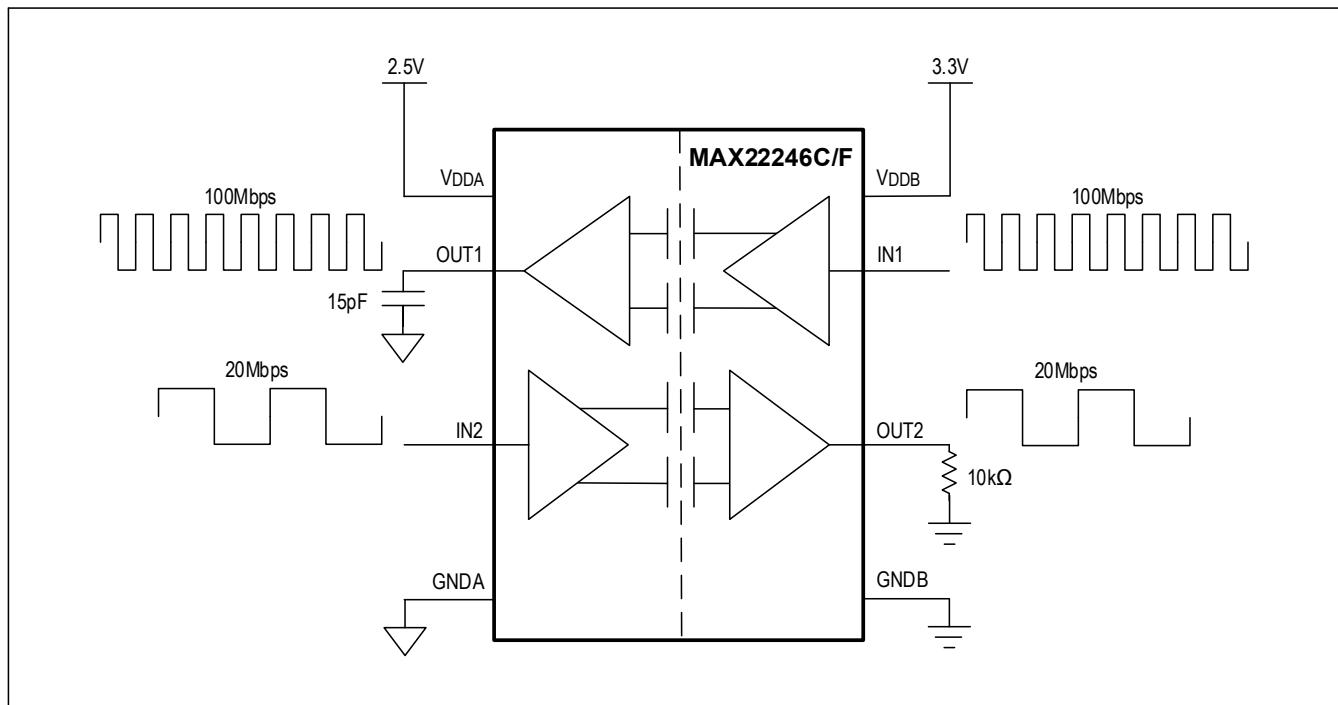

Figure 10. Example Circuit for Supply Current Calculation
**Example** (shown in Figure 10): A MAX22246C/F is operating with  $V_{DDA} = 2.5V$ ,  $V_{DDB} = 3.3V$ , channel 1 operating at 100Mbps with a  $15pF$  capacitive load, and channel 2 operating at 20Mbps and 50% duty cycle with a  $10k\Omega$  resistive load. See Table 4 and Table 5 for  $V_{DDA}$  and  $V_{DDB}$  supply-current calculation worksheets.